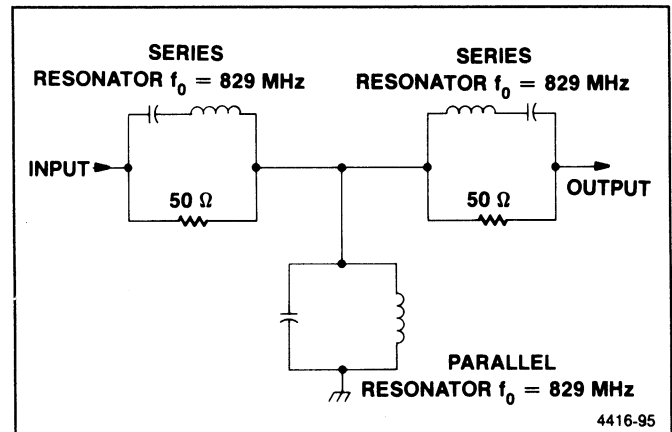

Figure 7-3. Simplified diplexer diagram.
**829 MHz Diplexer.** The 829 MHz Diplexer (A23A4) passes signals at 829 MHz with approximately 1 dB maximum attenuation and 200 MHz pass-band. Frequencies outside the pass-band but between about 50 kHz to 2 GHz are terminated in  $50\ \Omega$  loads with a match of at least 10 dB. Figure 7-3 shows a simplified schematic of the diplexer.
As shown in the schematic diagram, the diplexer contains components not shown in Figure 7-3. The  $50\ \Omega$  terminations are actually two pairs of  $100\ \Omega$  resistors, R1014-R1015 and R1011-R1012, connected in parallel to reduce load inductance. Small capacitors, C1010 and C1013, are connected across each load to improve impedance match at frequencies above the pass-band. The inductor in the parallel resonator is a printed length of transmission line that is tapped to establish the correct bandwidth. One end of this inductor is grounded through four capacitors so that dc bias from the 1st Local Oscillator Driver can be introduced to the 1st Mixer (A12) or the EXTERNAL MIXER input through this diplexer. Several capacitors are used in parallel to minimize inductance and circuit Q degradation. A low-pass filter is included in the bias line to minimize any noise from the 1st LO driver.